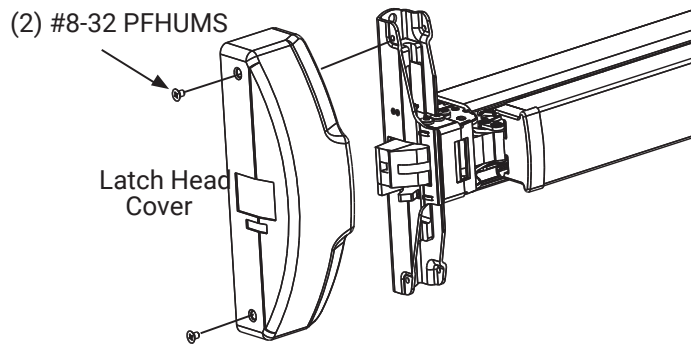

Figure 8: 757 Latch Head Cover Installation
1. Secure latch head cover with (2) #8-32 PFHUMS (Figure 8).